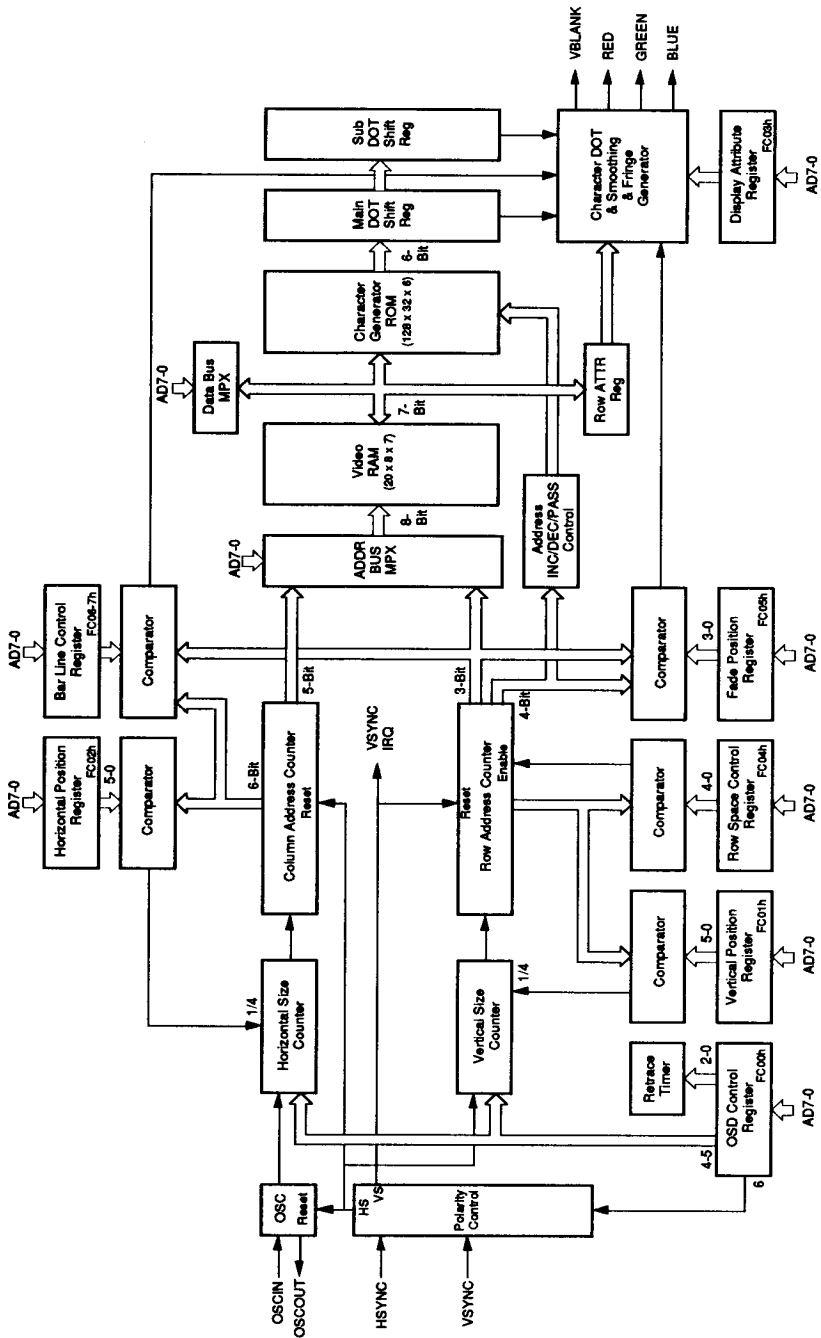

Figure 13. On-Screen-Display Block Diagram
**On Screen Display (OSD).** The OSD has a capability of displaying 8 rows by 20 columns of 128 kinds of characters for either high resolution (11x15 dots) or low resolution (5x7 dots) pattern (Figure 13).